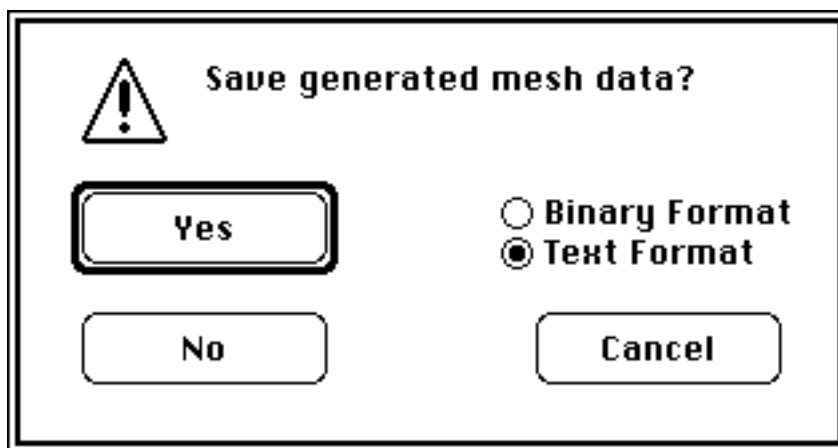

Fig 3.38 Save mesh data
If you are **not** in Demo mode, MP asks you to save the Mesh data (Fig 3.38).
- Click Yes (Fig 3.38).